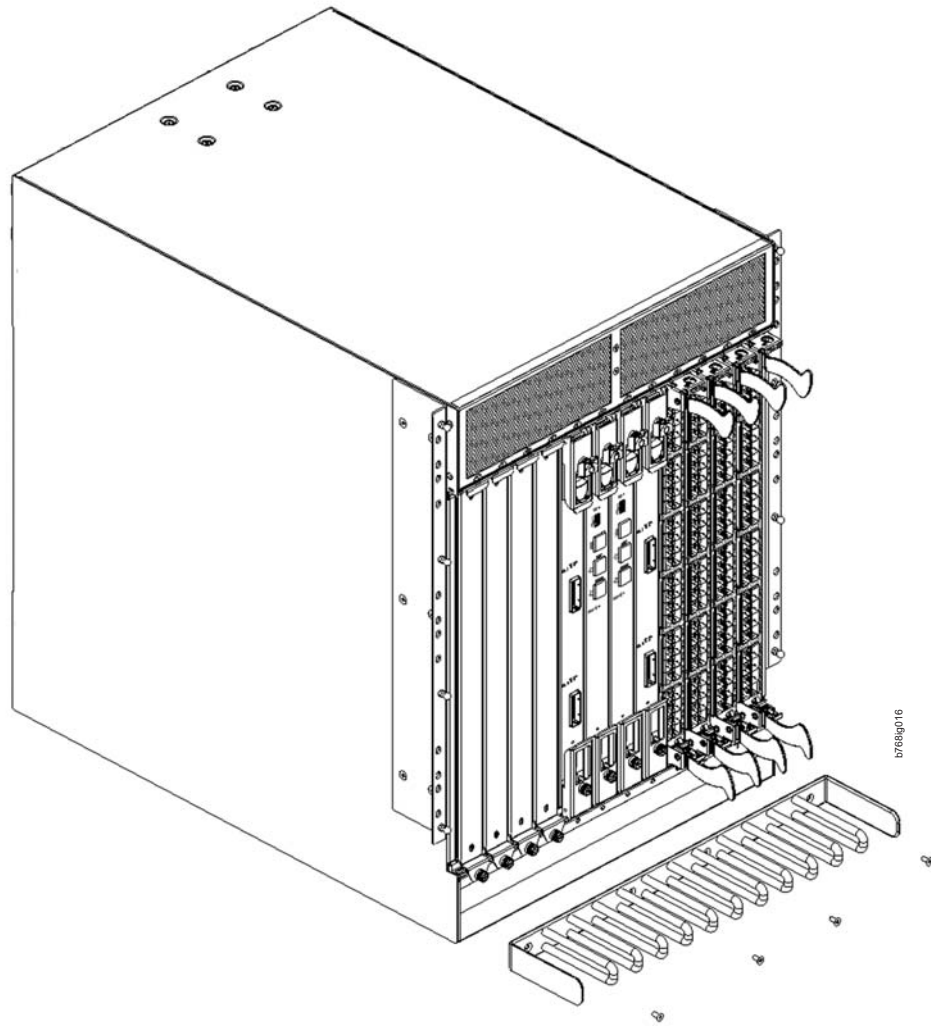

Figure 28. Cable management comb
3. Unscrew and save the four screws holding the comb to the chassis (see Figure 28 on page 67). Support the comb to prevent it from falling.